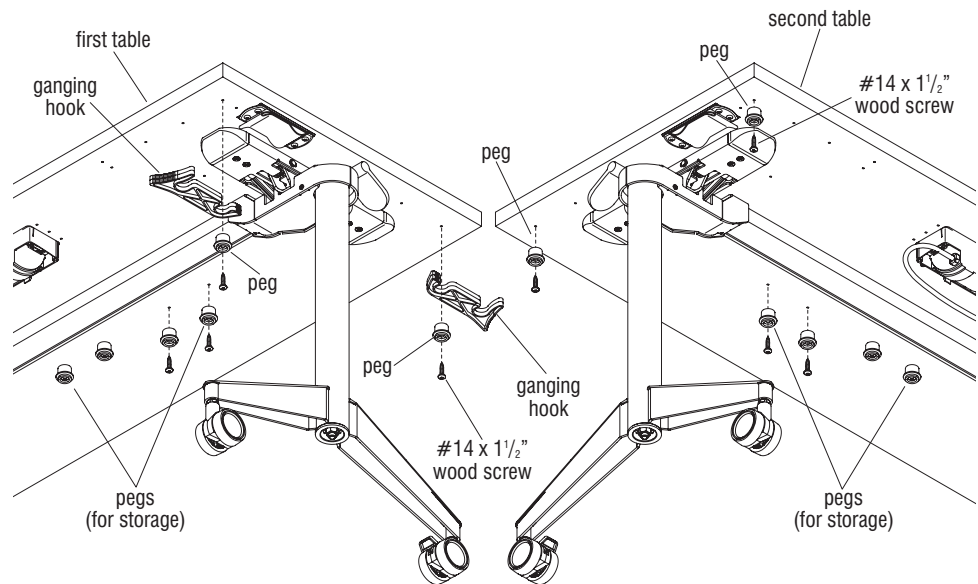

Figure 12 - 24", 30" & 36" Nesting-Base Tables with Table-to-Table Ganging
1. Carefully turn tables to the upright position. As illustrated, and based on the table depth, position the two ganging hooks as shown, at the underside of the first table. Install the two hooks to the first table using two pegs and #14 x 1½" wood screws. Next, install four pegs at the other illustrated locations on the first table for future use to store ganging hooks (Figure 12).
2. At the second table, install two pegs inline with the first set of pegs with installed ganging hooks and four pegs for future use to store ganging hooks (Figure 12).
3. Move tables together and swing the ganging hooks of the first table to securely engage the pegs under the second table (Figures 12 & 13).